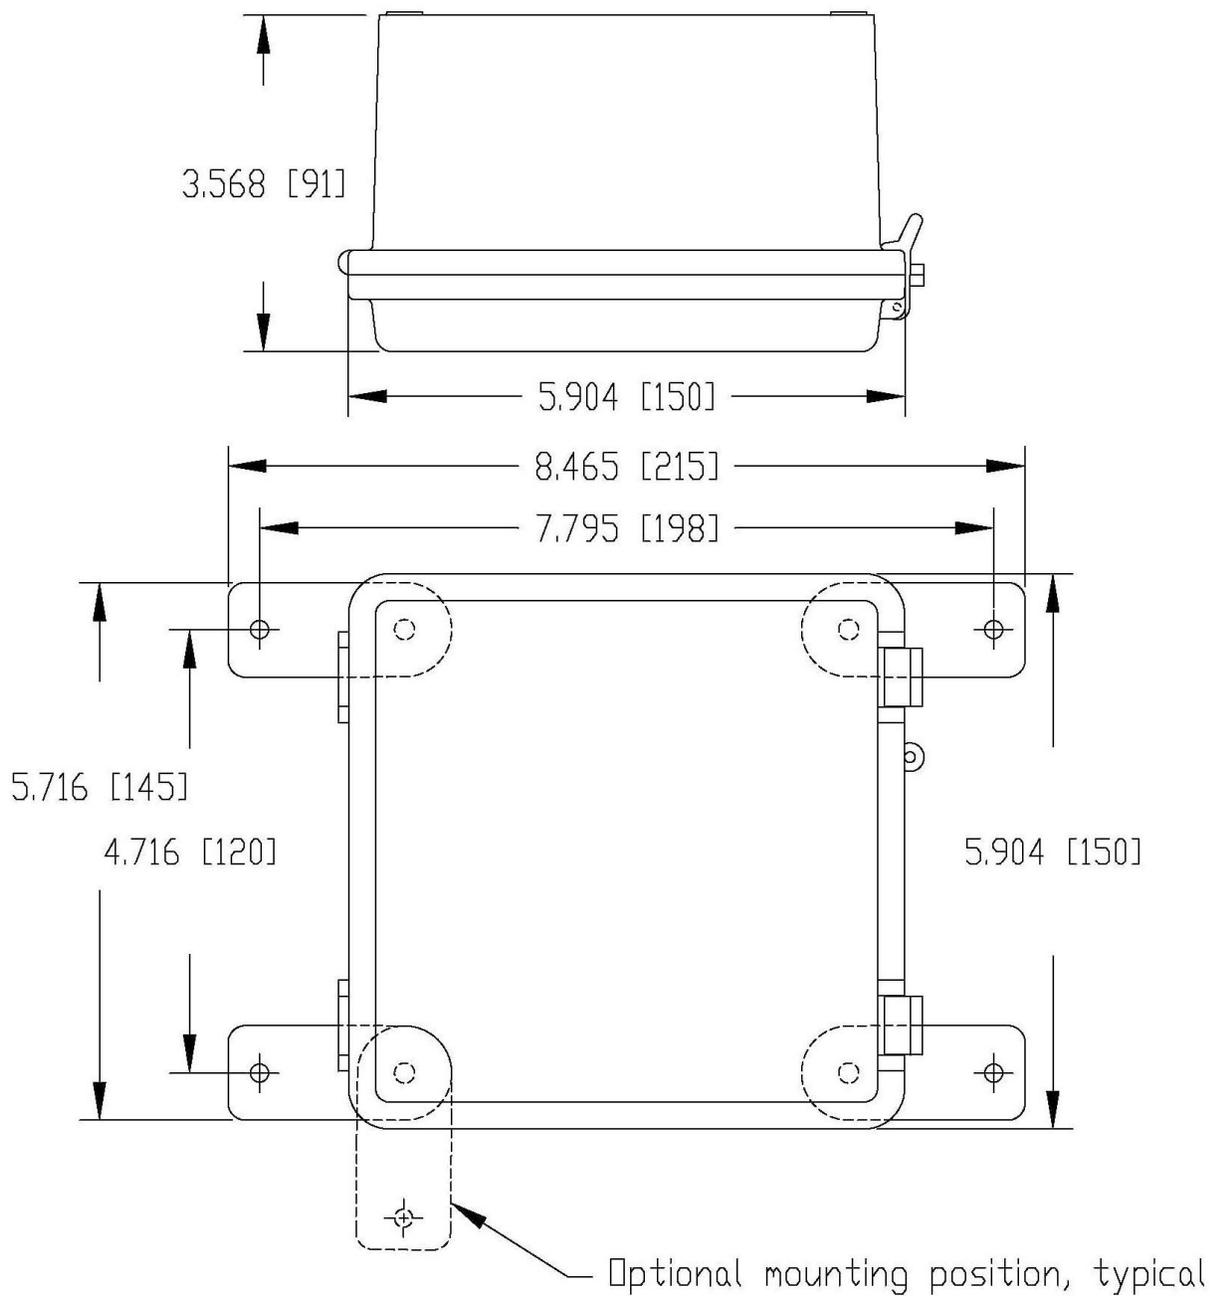

Figure 2: Plastic enclosure dimensions
2. Plastic NEMA 4X enclosures, manufactured by Bud Industries, Inc, shown in Figure 2. Further specifications are available from Bud's website ([www.budind.com](http://www.budind.com)), part number NBB-15240 with clear cover.